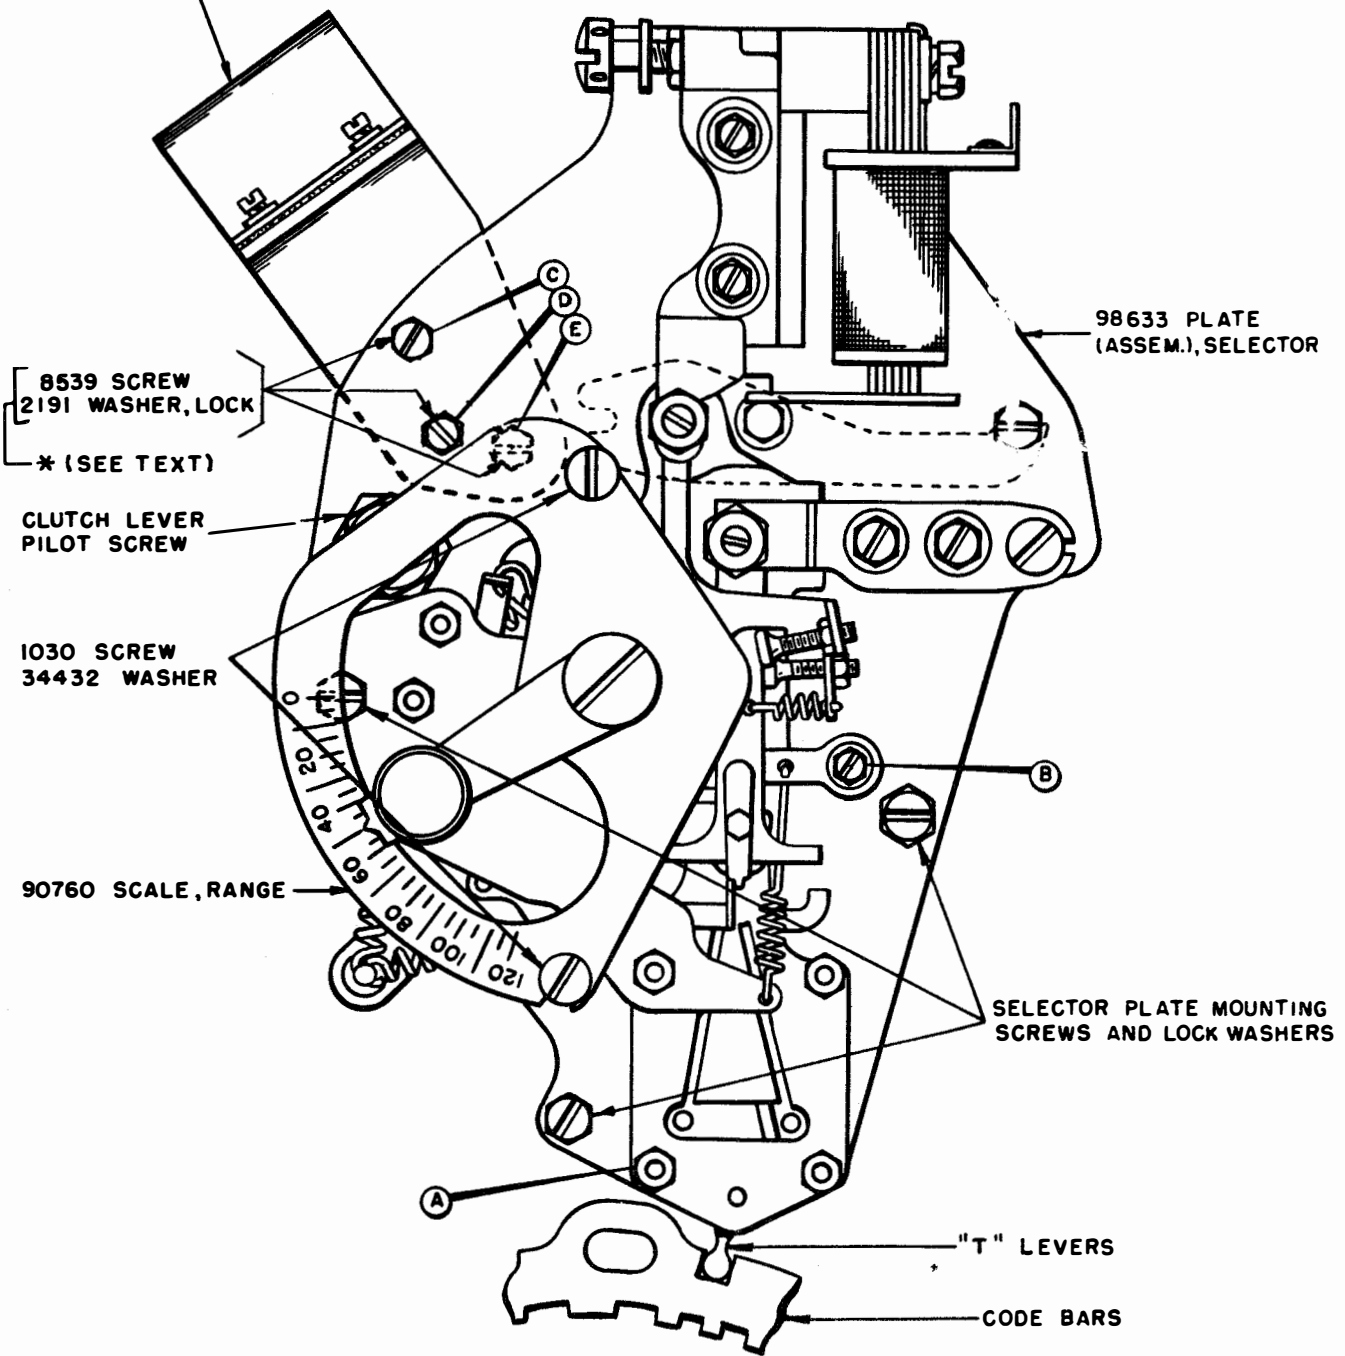

FIGURE 1
2. INSTALLATION (Figures 1 and 2)
(1) Remove the two 74986 Screws from the 97293 Switch Bracket.
(2) Install the 97377 Spring Bracket on top of the 97362 Magnet Bracket (Hole closest to magnet coil) using one 74986 Screw through the "C" hole (see Figure 1) of the selector plate, threaded into the corresponding tapped hole of the 97293 Switch Bracket; the other 74986 Screw should be installed through the remaining magnet bracket mounting hole and the "D" hole (see Figure 1) of the selector plate into the corresponding tapped hole of the switch bracket.
(1) Remove the 8539 Screw and lock washer from hole "E" (see Figure 1). Insert this 8539 Screw through the 97377 Spring Bracket, the 97362 Magnet Bracket Mounting Hole (closest to coil) and through hole "C" (see Figure 1) of the selector plate with the 2191 Lock Washer and 3598 Nut.
(2) Remove the 8539 Screw and lock washer from hole "D" (see Figure 1) and use with the 7002 Washer to mount the magnet bracket above and the terminal block bracket below the selector plate in the same mounting hole "D".